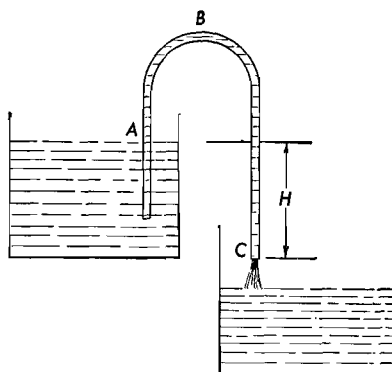

Fig. 6.16. A siphon.
**38. The Siphon.** A siphon is a bent tube with unequal arms which is used for transferring liquids from a higher to a lower level. If the tube is filled with the liquid and placed as shown in Figure 6.16,